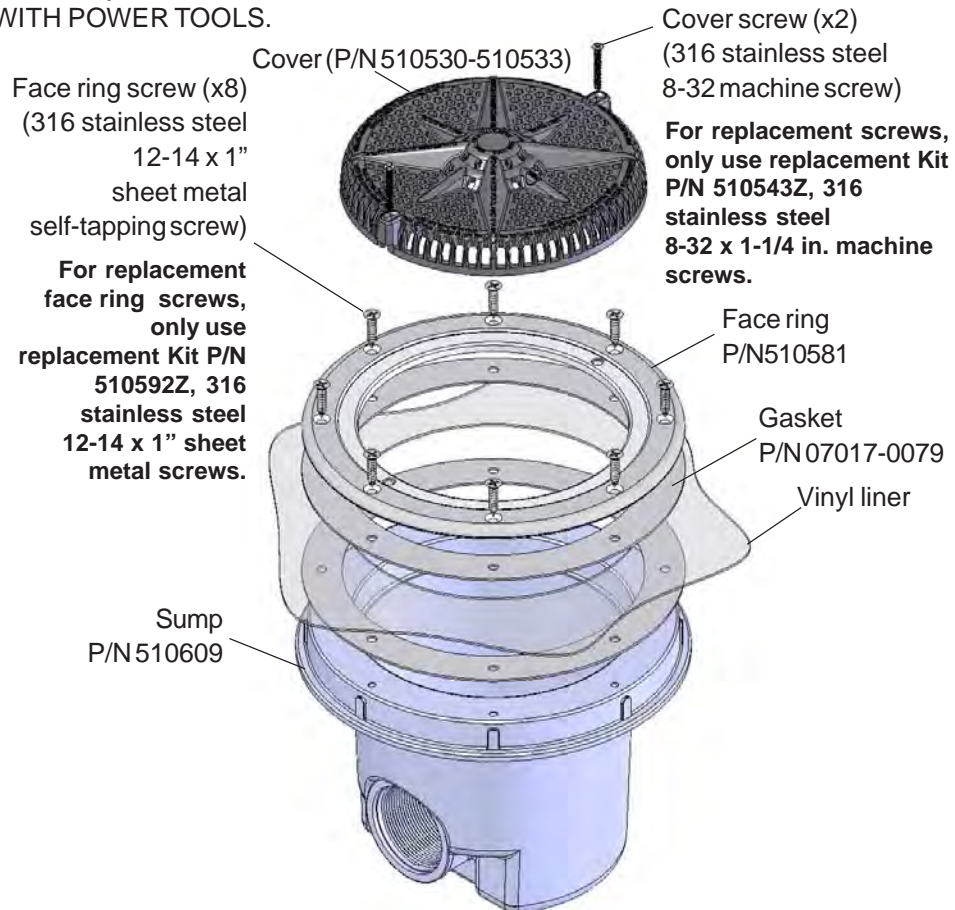

Figure 2
- Mount the main drain cover on top of the face ring/suction outlet. Rotate the cover until the screw holes are aligned (see Figure 2).
- Install the two (2) 316 stainless steel 8-32 machine screws (provided) into the holes in the top of the cover. Using a No. 2 Philips head screwdriver, tighten each retaining screw to a **torque value of 10.00 (minimum) to 15.0 (maximum) in-lbs** to secure the cover. DO NOT OVER TIGHTEN THE SCREWS. DO NOT ASSEMBLE WITH POWER TOOLS.